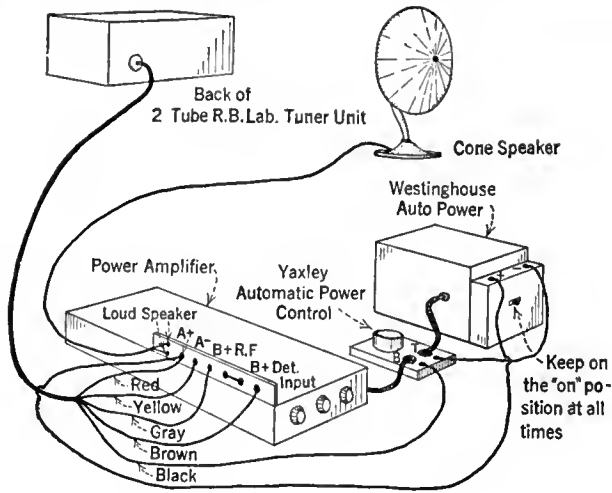

FIG. 7
This is the two-tube R. B. "Lab" Receiver. Used in conjunction with the line power-supply device described in this article, very excellent results are obtainable. The receiver may be connected to the power supply by a cable, such as that shown tapering off to the left of this page, which indicates connection to the unit at the bottom of the page. The loud speaker is one of the large size Western Electric cones. Compare this photographic layout with Fig. 7 on page 288
The most convenient way of controlling the amplifier-power supply unit set, and A-power unit, is by means of one of the automatic relay switches. Fig. 7 shows just how the equipment is connected together. Where the set and amplifier are not too far apart—and it is recommended where possible that they be placed not over 10 feet apart—the use of a cable, such as the Yaxley, will be found a very convenient and neat method of connecting the various units together.
In the case of the two-tube R. B. "Lab" circuit receiver, the lead from the input (P) post on the amplifier is run to the output post on the set (See Fig. 7).